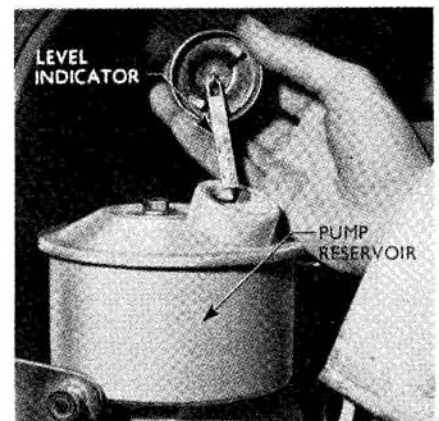

Fig. 9—Maintain fluid level to full mark on level indicator (dipstick) attached to pump reservoir filler cap.
23. To bleed the system, turn front wheels to the right against stop. Fill reservoir to "full" mark on dip stick (see Fig. 9) with good quality SAE 10W oil. Note: If temperature is consistently below 10 degrees F. use